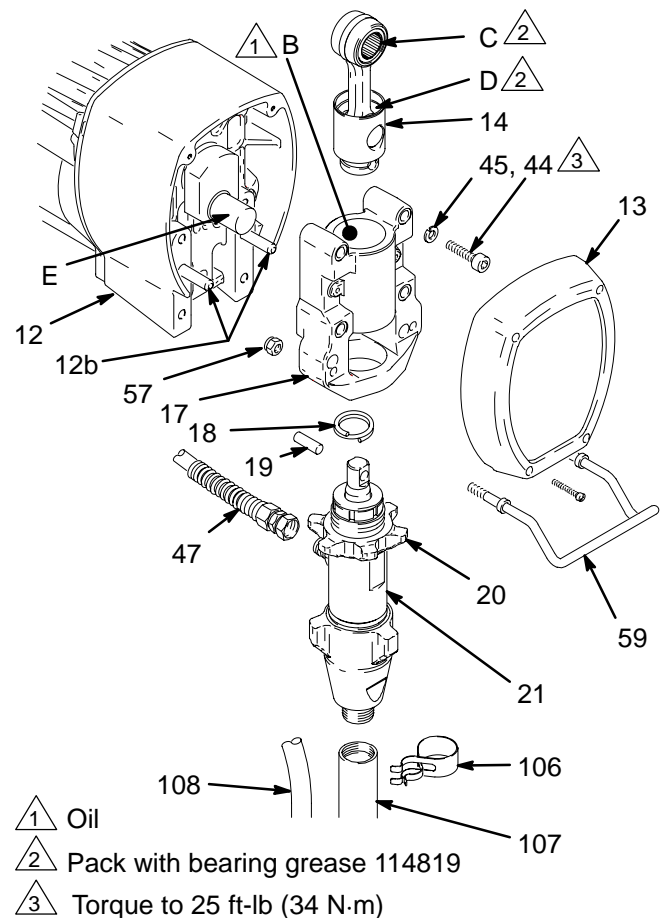

Fig. 3 8697A
2. Stop sprayer at bottom of stroke to get crank (E) in lowest position. To lower crank manually, remove spark plug and carefully rotate crank by pulling starter rope.
3. Fig. 3. Remove front cover (13). Unclip drain hose (108) from pump. Unscrew pump suction tube (107) from pump. Disconnect pump hose (47).
4. Push up retaining spring (18). Push pin (19) out rear.
7. Fig. 3. Install remaining parts.